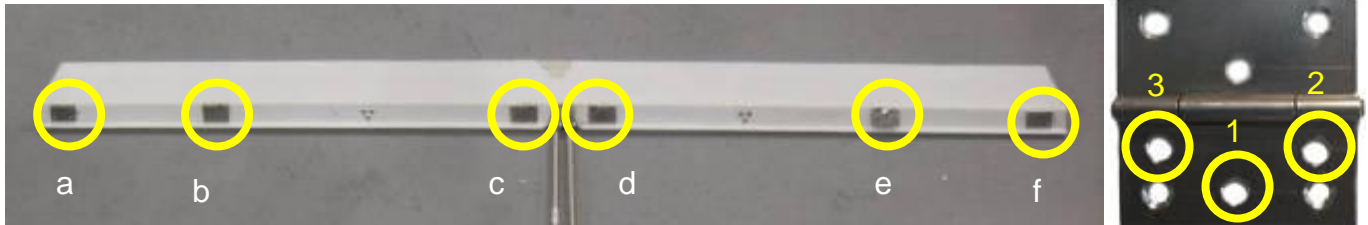
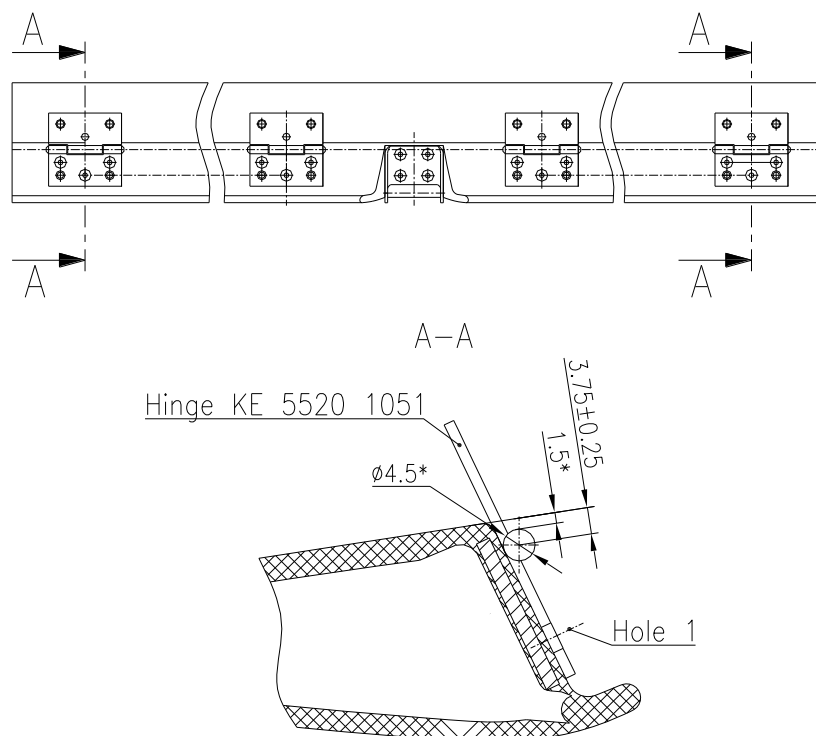

Fig. 3-16
Fig. 3-18
1. On the Trim Tab wall mark the position for hole “1” of the hinge “a” (Fig. 3-16). The new holes shall be marked in alignment with the holes “1” of the existing hinges (“c” or “d”).
2. Place the hinge on the Trim Tab Wall as shown on Fig. 3-18. Combine the hole “1” of the Hinge KE 5520 1051 (Fig. 3-16) with the mark on the Trim Tab Wall.
3. Combine the hole “1” of the Hinge KE 5520 1051 (Fig. 3-16) with the hole in the Trim Tab wall. Check that the hinge is aligned with the Trim Tab wall edge.
4. Rivet the Hinge KE 5520 1051 through the hole “1”, Fig. 3-16 and the hole in the Trim Tab wall.
5. Drill the holes using a drill Ø4.1mm in the Trim Tab wall by the holes “2” and “3” (Fig. 3-16) of the Hinge KE 5520 1051.
6. Rivet the hinge through the holes “2” and “3”, Fig. 3-16 and the holes in the Trim Tab wall.
7. Repeat steps 1-6 for the Hinge “1”, Fig. 3-16.